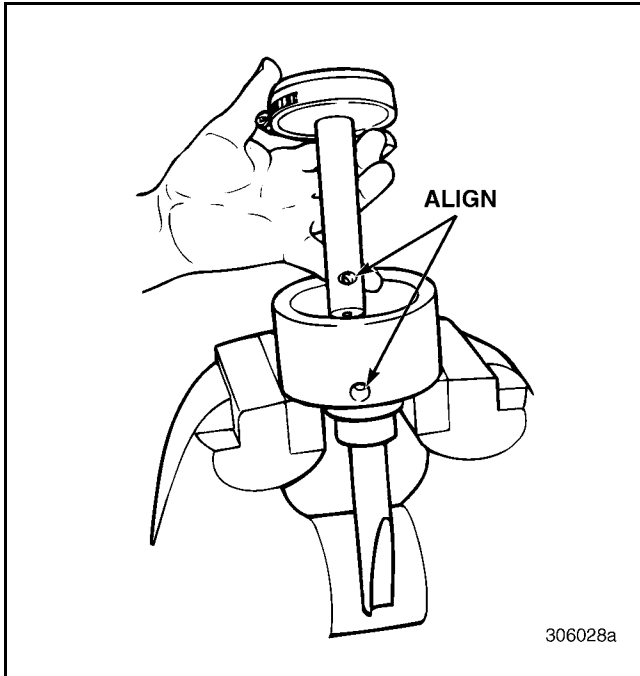

Figure 345 — Installing Piston Assembly
9. With the cylinder housing properly secured in a vise, install the piston assembly. Be sure to install the piston with the shift fork locking bolt hole in the rail facing the air line port in the cylinder housing as shown in Figure 345.